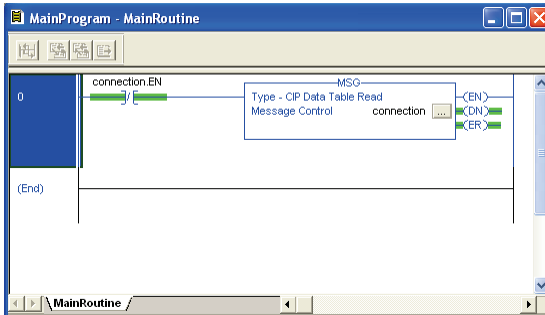

Figure 75: Complete Program
6) The program is now complete. Refer to Figure 75.